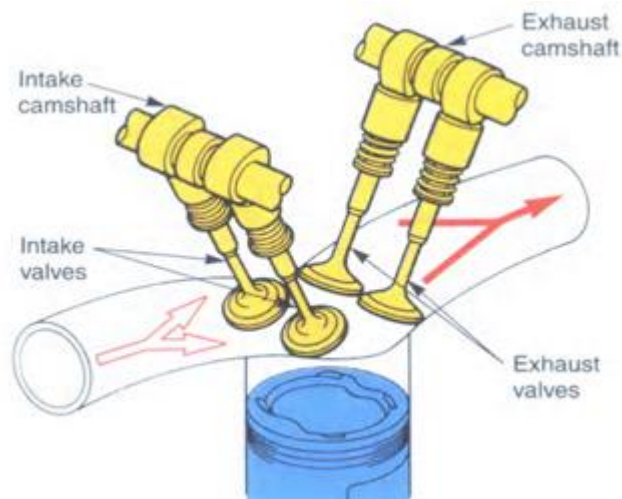

Fig.4
**A four-valve combustion chamber** uses two exhaust valves and two intake valves. The extra valves increase flow and engine power. This setup is now used on many modern passenger car engines. (Fig.4)
Engine has two camshafts per cylinder head. One cam operates the intake valves; the other operates the exhaust valves. The dual overhead cam arrangement is frequently used in engines equipped with four-valve combustion chambers. (Fig.4)